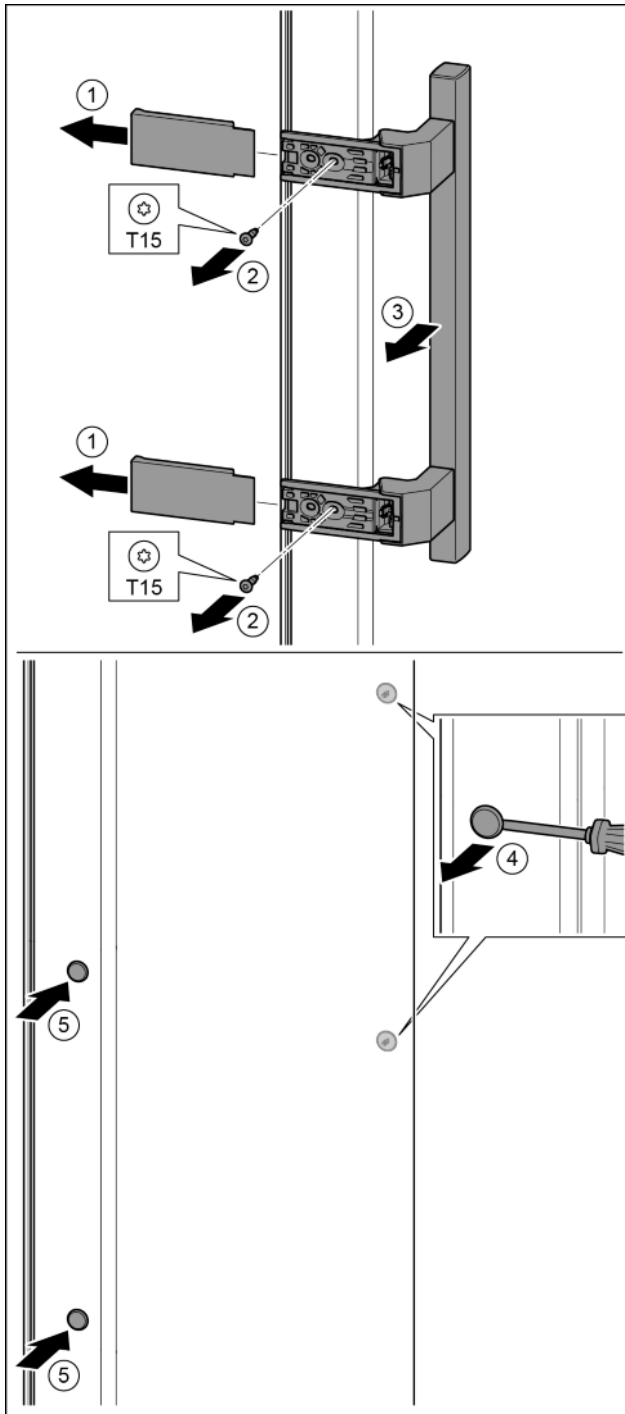

Fig. 15
- ▶ Pull off the cover. Fig. 15 (1)
- ▶ Remove the screws with the T15 screwdriver. Fig. 15 (2)
- ▶ Remove the handle. Fig. 15 (3)
- ▶ Carefully lift up the side plugs with a slotted screwdriver and pull them out. Fig. 15 (4)
- ▶ Insert the plugs again on the other side. Fig. 15 (5)